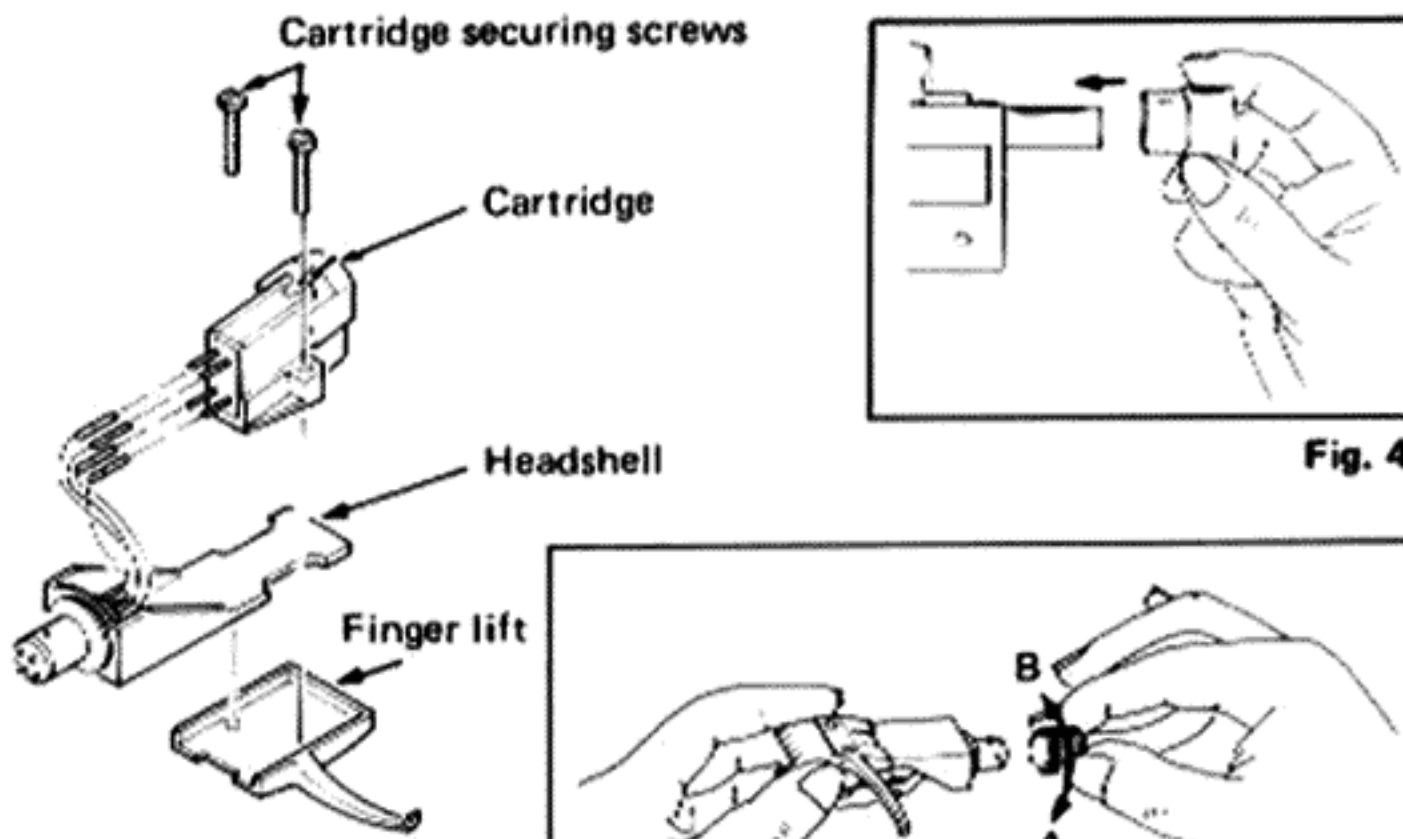

Fig. 4
4. Slide the main weight ( Ⓣ ) onto the weight axis as close to the tonearm base as possible. (Fig. 4)